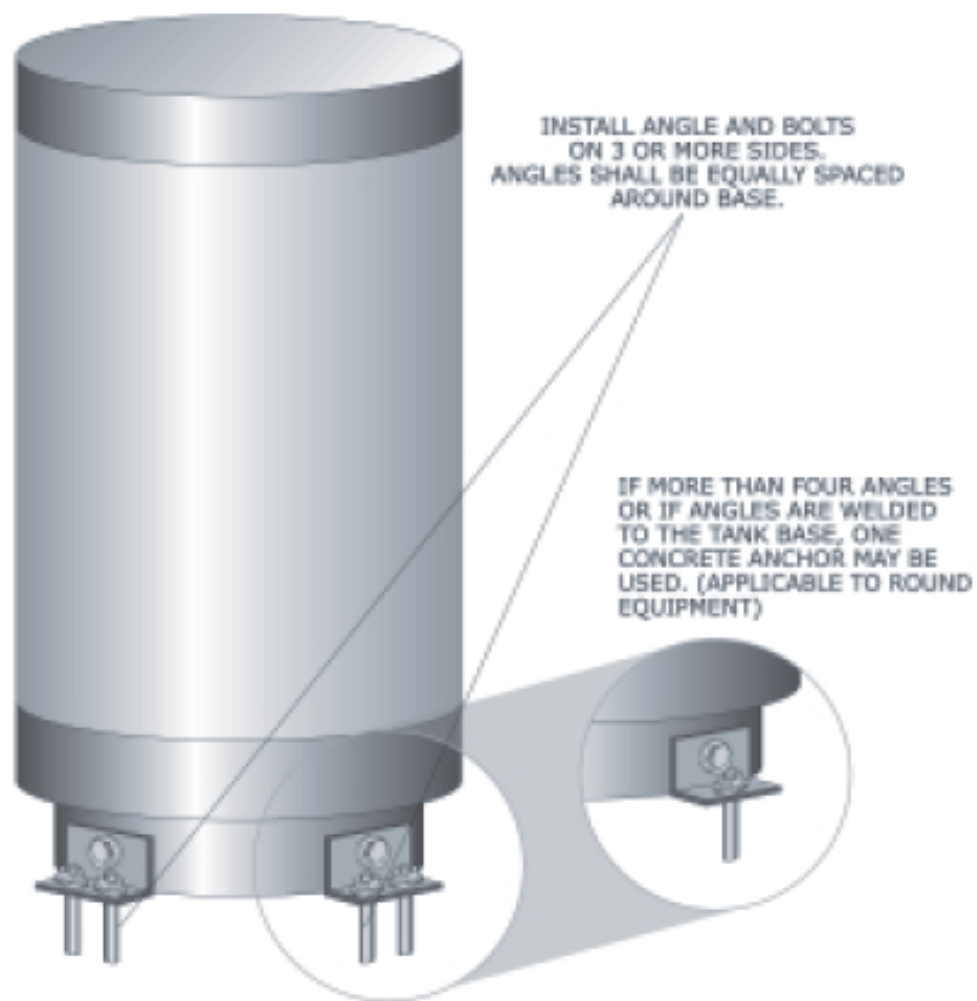

Figure 75: Three or more angles used to bolt down equipment with a round base.
- Three or more angles used to bolt down equipment with a round base: Figure 75 (page 38).